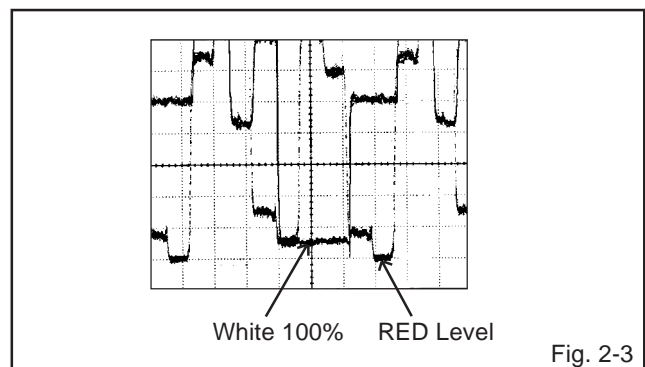

Fig. 2-3
7. Press the VOL. UP/DOWN button on the remote control until the red color level is adjusted to $110 \pm 0.5\%$ of the white level. **(Refer to Fig. 2-3)**